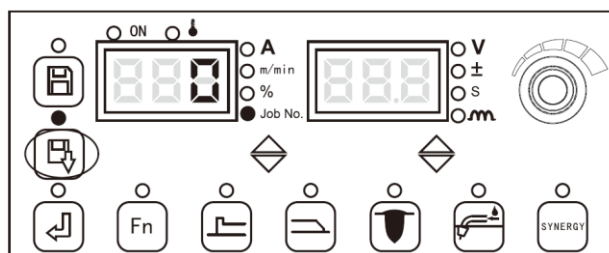

Figure 3-17 Setting screen for Invoke
- Use the panel knob to select **channel** number (0~49) to be invoked, and press the **Enter** key for confirmation, as shown in Figure 3-17.
2. Use the panel knob to select the JOB number (0 to 49) whose parameters need to be modified, as shown in Figure 3-17.